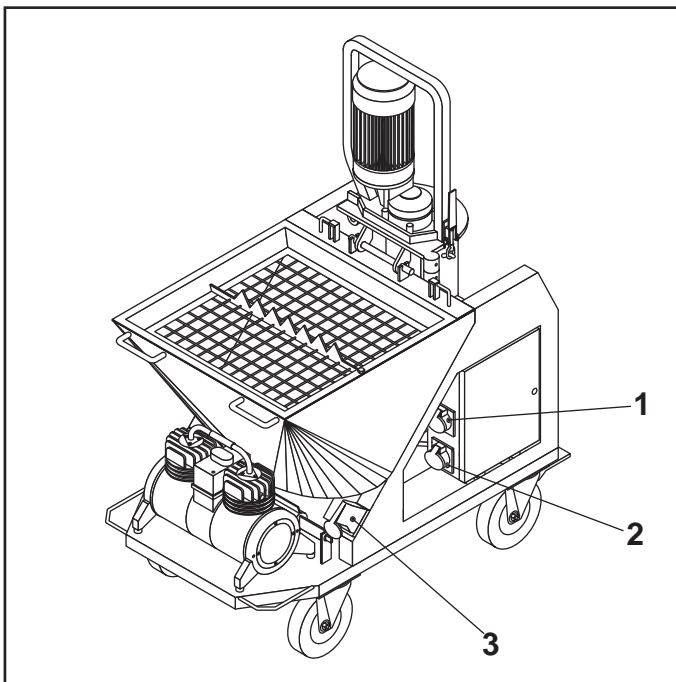

FIG.08
- Connect the mixer motor reducer power supply plug to the socket (FIG.08-REF.1) and connect the compressor power supply plug to the socket (FIG.08-REF.2).
- Connect the power supply cable to the socket (FIG.08-REF.3).